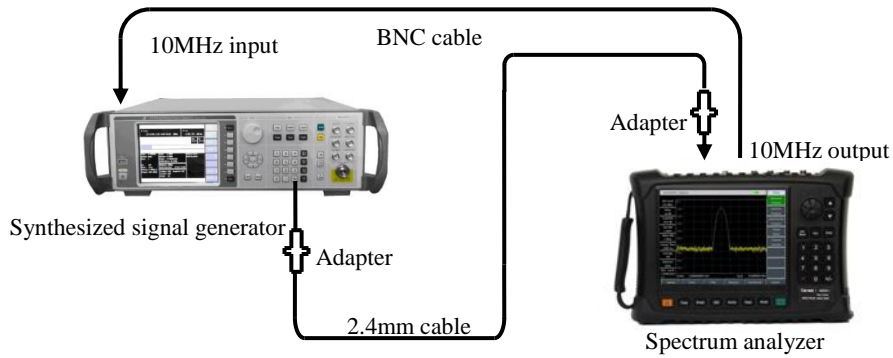

Fig. 12-5 Setting for Resolution Bandwidth Accuracy Test
- 1) Connect the test equipment as shown in Fig. 12-5. The spectrum analyzer will provide the frequency reference for the signal generator.